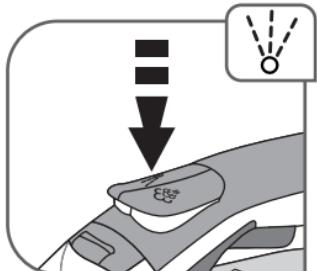

Fig.11
- When you dry or steam iron, press the SPRAY button several times to wet the fabric and remove resistant creases – fig.11.